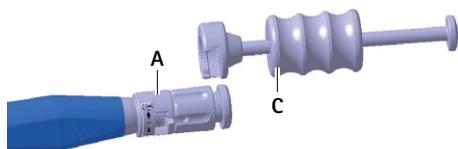

Fig. 5 Mounting the impact cylinder onto the insertion instrument
- ▶ Mount the impact cylinder C onto the insertion instrument A, see Fig. 5.
- ▶ Mount the impact cylinder **B** onto the insertion instrument **A**, see Fig. 5.